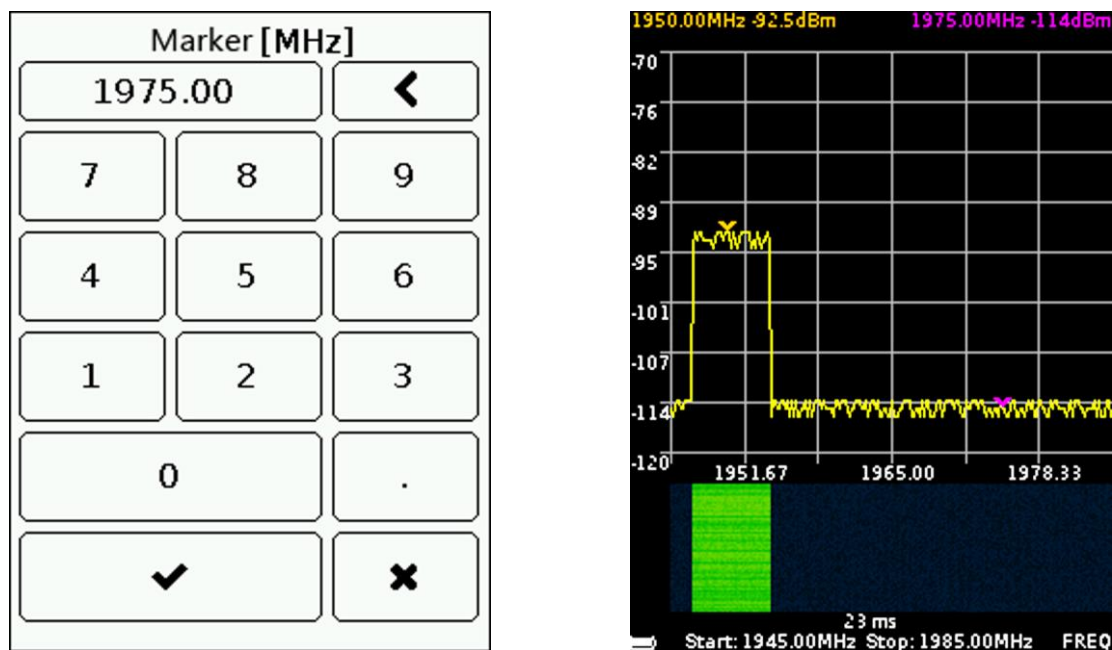

Figure 8.5.2 - Entering the marker frequency and displaying the markers on the screen
8.5.3. Setting the specified marker frequency is performed by entering a numeric value in the opened submenu, as in figure 8.5.2. Enter a numeric frequency value and press ✓ (**Data input**). To delete erroneous or previously entered values, press < (**Delete**). To refuse input a value, press × (**Cancel**). In our example, in Figure 8.5.2, a raspberry marker 3 is installed in the **«Point»** mode at a frequency of 1975 MHz. The orange marker, working in the **«Peak»** mode, tracks the maximum signal.